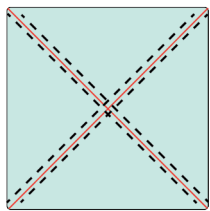

Fig. 2
- Sew a **SCANT** ¼" seam on each side of each diagonal line and press the sewn square to set the seams. (Fig. 2)